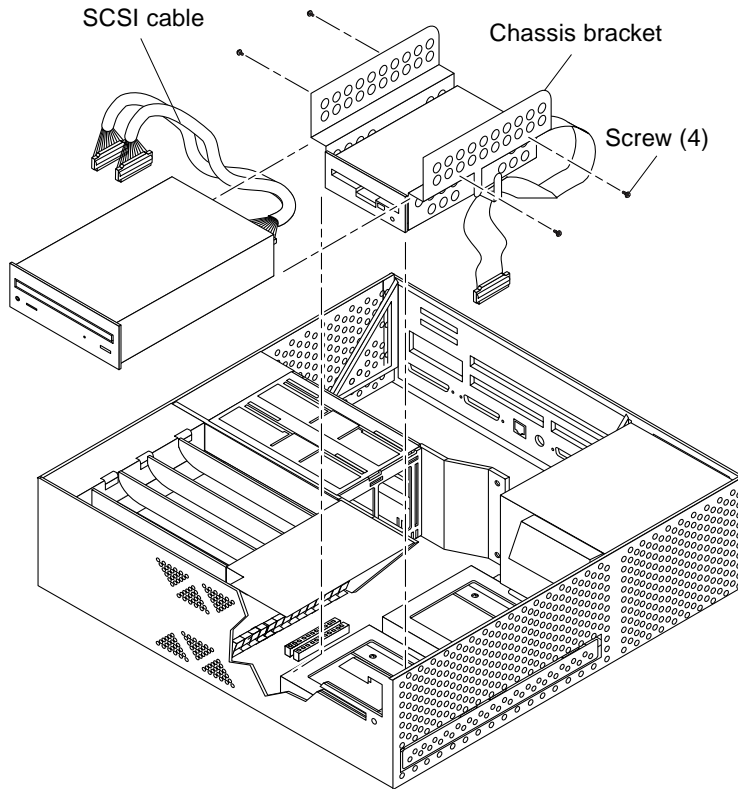

FIGURE 9-3 Removing and Replacing the CD-ROM Drive
5. Remove the CD-ROM drive as follows (FIGURE 9-3):
1. Replace the CD-ROM drive as follows (FIGURE 9-3):